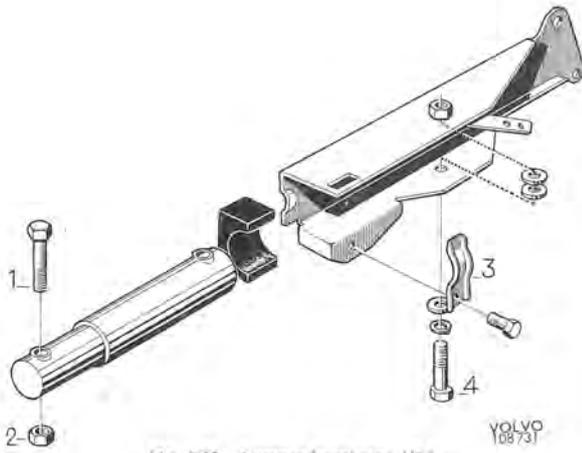

Fig. 8-90. Bumper bracketry, USA
The bumpers (Fig. 8-89) are made of aluminium and are provided with energy-absorbing rubber strips. On the USA market, the bumpers are fitted with hydraulic dampers (Fig. 8-90). With this bumper arrangement, the bumpers should be able to withstand
The front bumper is removed as follows: First remove the directional indicators. Then take off the rubber cover washers which are situated in the cover strip over the bumper. Thereafter release the nuts (1, Fig. 8-90) and pull out the bolts (2). Finally take off the bumper complete. Installing is in reverse order to removal.
The shock absorbers are removed by taking off the clamps (3, Fig. 8-90), and then releasing the nuts and taking off the bolts (4). Now the bumper with shock absorbers is completely loose and can be taken off. Thereafter undo the bolting (1 and 2) and replace the shock absorber with a new one by first fitting it to the bumper, but without tightening up the bolting. Then fit the shock absorber to its rear attachment. Fit the bolt (4) with spring washer, spacer washer (one on each side of the shock absorber) and the nut but without tightening the nut. Now fit the clamp (3). Use polygrip pliers. Thereafter tighten up bolts and nuts.